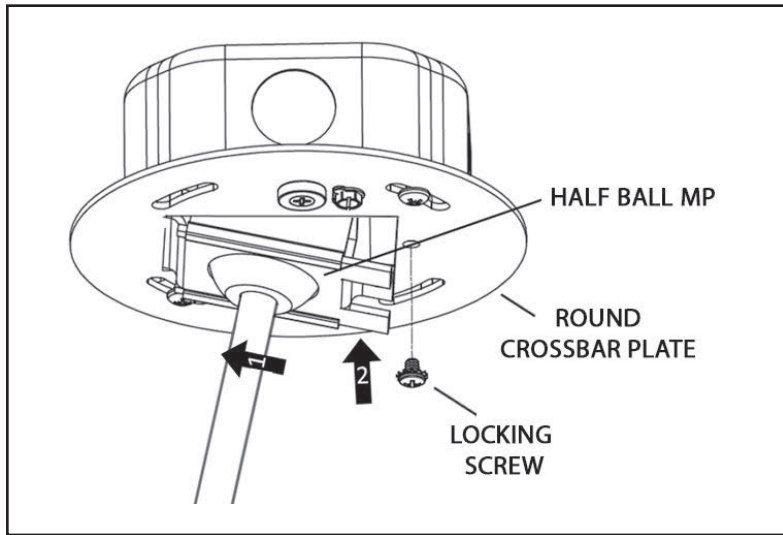

Figure 9
12. Wire neutral lead to white wire, hot supply lead to black wire, and bare copper and/or green wire must be connected to supply ground. Use wire nuts supplied. (Figure 9)
13. For 0-10 dimming, or digital dimming: wire purple & pink leads to appropriate control wires. Place electrical connections in J-Box. (Figure 9)
15. Take assembly from Step 2 and insert the Half Ball Mounting Plate through the Round Crossbar Plate at an angle. Push the remaining side up and slide into place. Use Locking Screw to secure. (Figure 9)